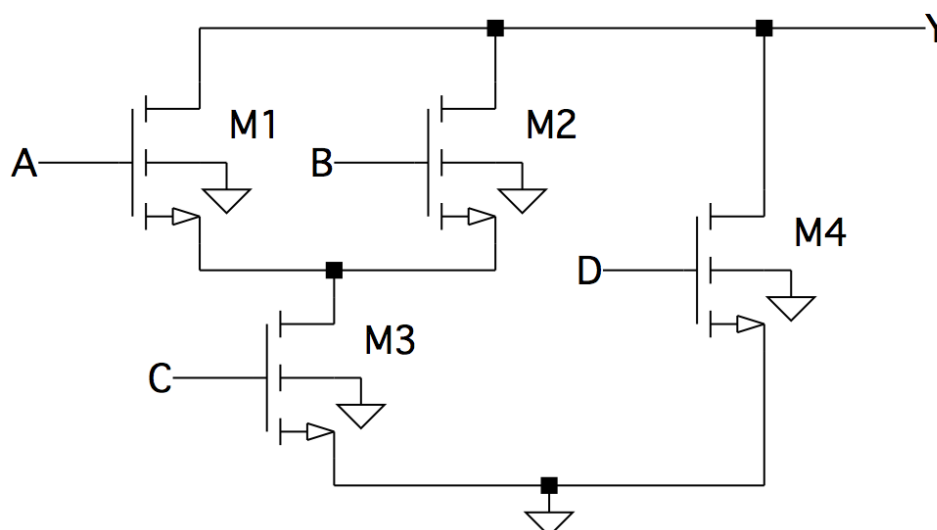

Figure A1: Pull-Down Network
A1 The *pull-down* network for a digital CMOS gate is as shown in **Figure A1**:
- Draw the corresponding *pull-up* network for the gate in **Figure A1**. (4)
- Derive an expression for **Y** in terms of **A**, **B**, **C**, and **D**. (4)
- Size the transistors **M1**...**M4**, assuming that the gate is *minimum-sized*. State any assumptions made. (4)
- What is the justification for connecting all of the substrate connections for **M1**...**M4** to the negative supply rail? What problem can this, potentially, cause? (4)
- If circuit in **Figure A1** were used in an environment where the output of the (4)